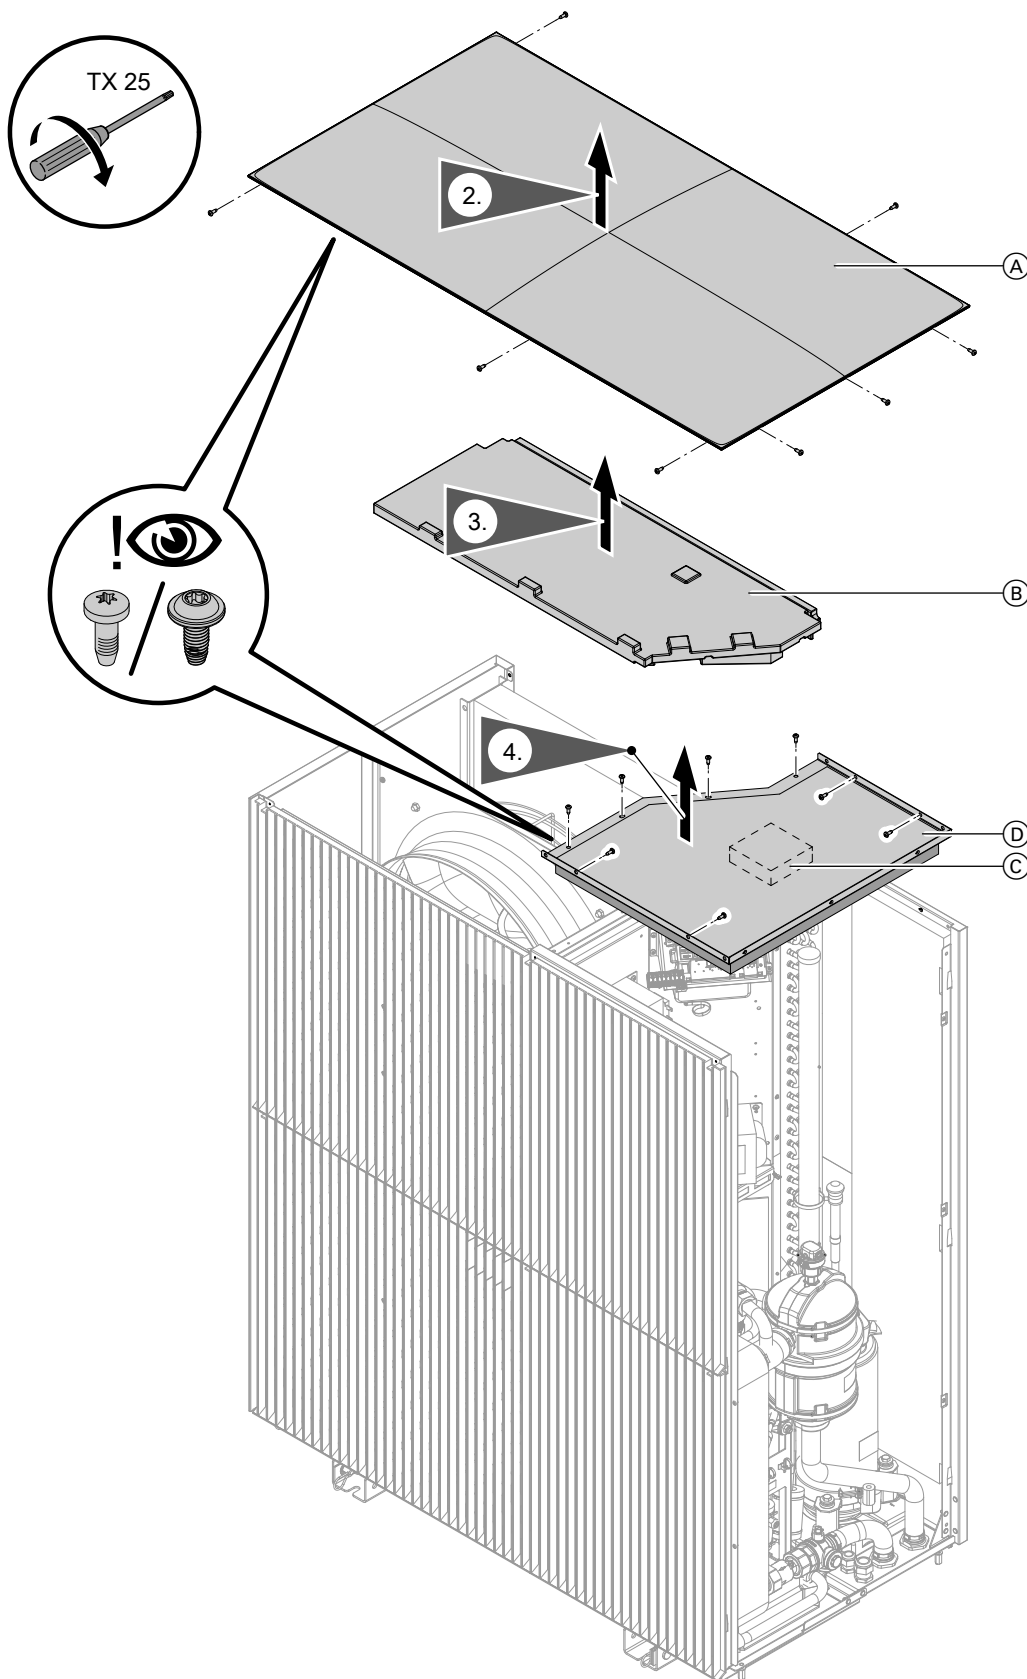

Fig. 103
7. Remove cover: See Fig. 103.
2. Remove cover: See Fig. 103.